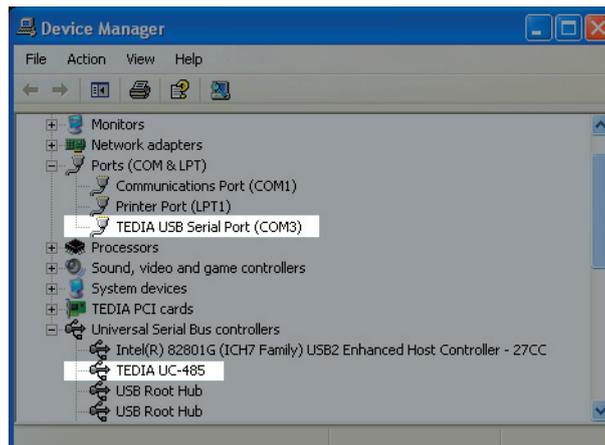

Fig. 9. TEDIA USB converter with the virtual COM port successfully installed.
8) Both the system driver and virtual COM port driver is now installed. You can verify the correct installation in the Device Manager under “Ports (COM & LPT)” and “Universal Serial Bus Controllers” sections (see Figure 9). The device is now ready to use on COM3.